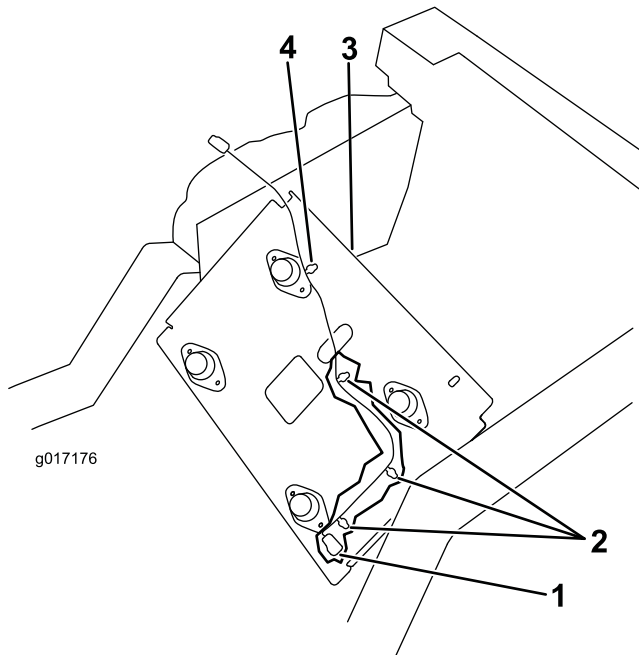

Figure 6
- 3. Plug the new harness into the traction unit harness (Figure 6)
- 4. Insert the (3) harness wire clips into the holes in the seat plate (Figure 6).
5. Route the harness up through the hole in the seat base and insert the remaining harness clip into the hole in the seat base (Figure 6).